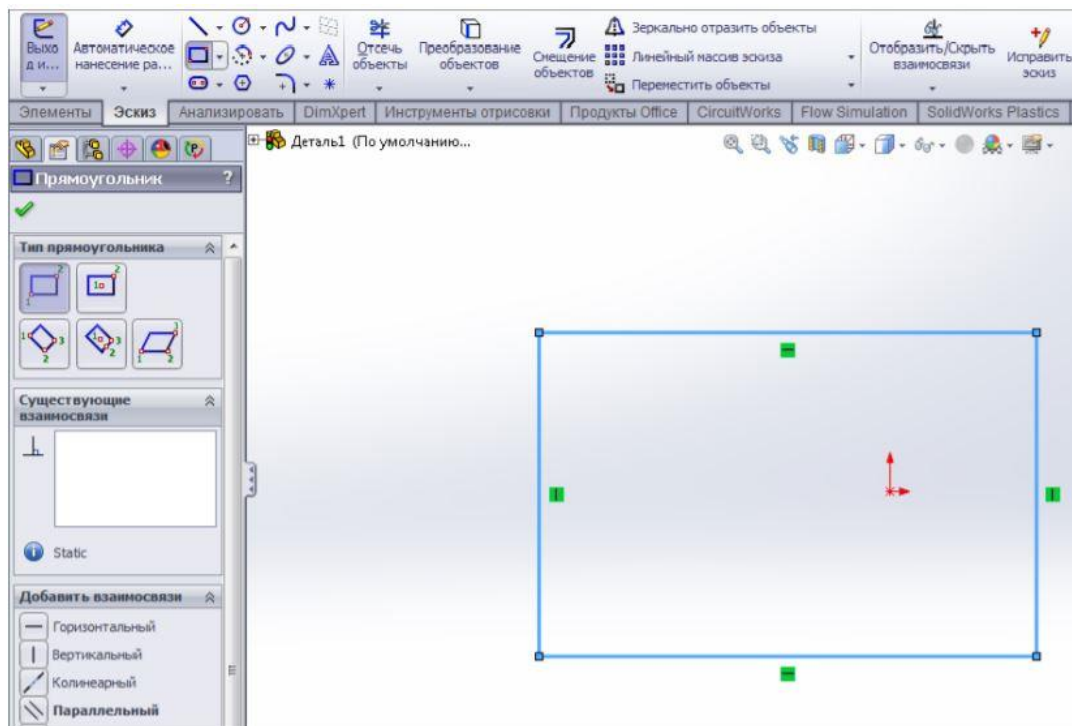

Figure 8.1 – Rectangle sketch
8.2.2 Then, on the "Top" plane, create a sketch of a rectangle that will be the base of the radiator. We set its dimensions as shown in figure 8.1.